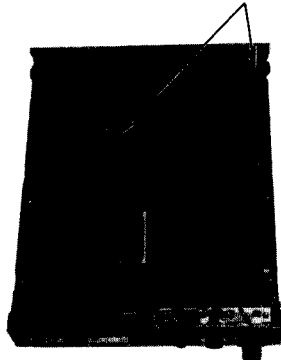

Fig. 2-2-3
- Referring to Fig. 2-2-3, remove two screws fixing the Power Supply Unit and remove the Power Supply Unit.